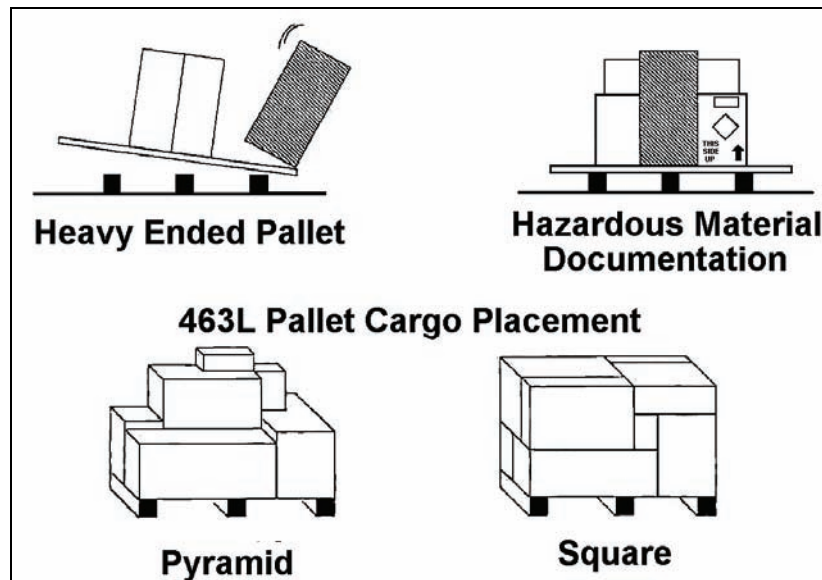

Figure 3-106. Building a 463L Pallet
2. Direct the procedures required to build a 463L pallet (see Figure 3-106).